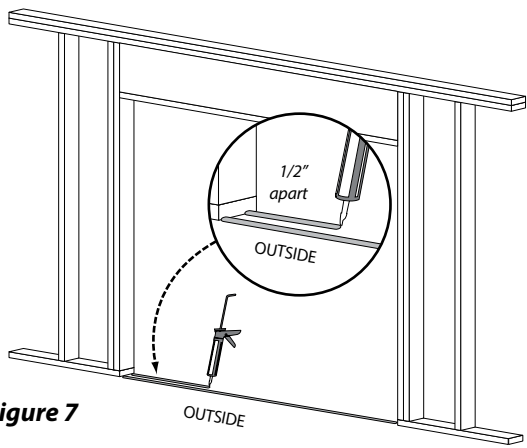

Figure 7
5. Put a generous bead of caulk along the outside edge of the subfloor and another 1/2" in from the first (figure 7). Be sure the caulking bead creates a seal between the door sill and the subfloor to prevent any water infiltration.